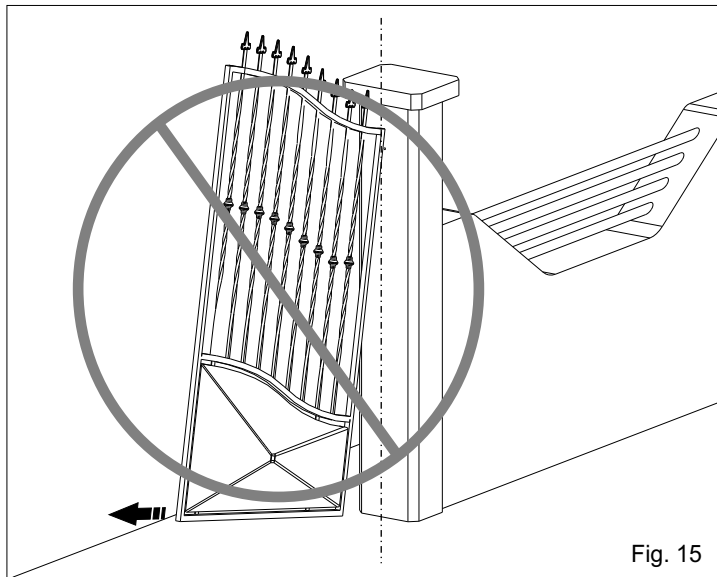
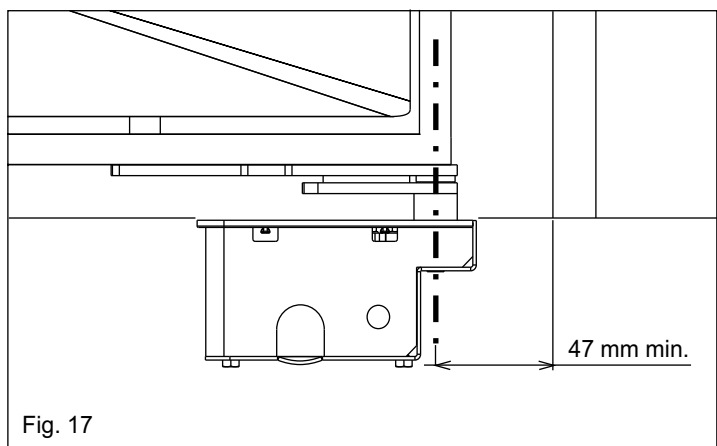

Fig. 15
Fig. 17
3.3. Be careful not to place the leaf outside the axis (Fig. 15 and 16), but make sure the shaft corresponds to the hinge rotation axis remembering that the minimum distance from the pillar is 47 mm (Fig. 17).